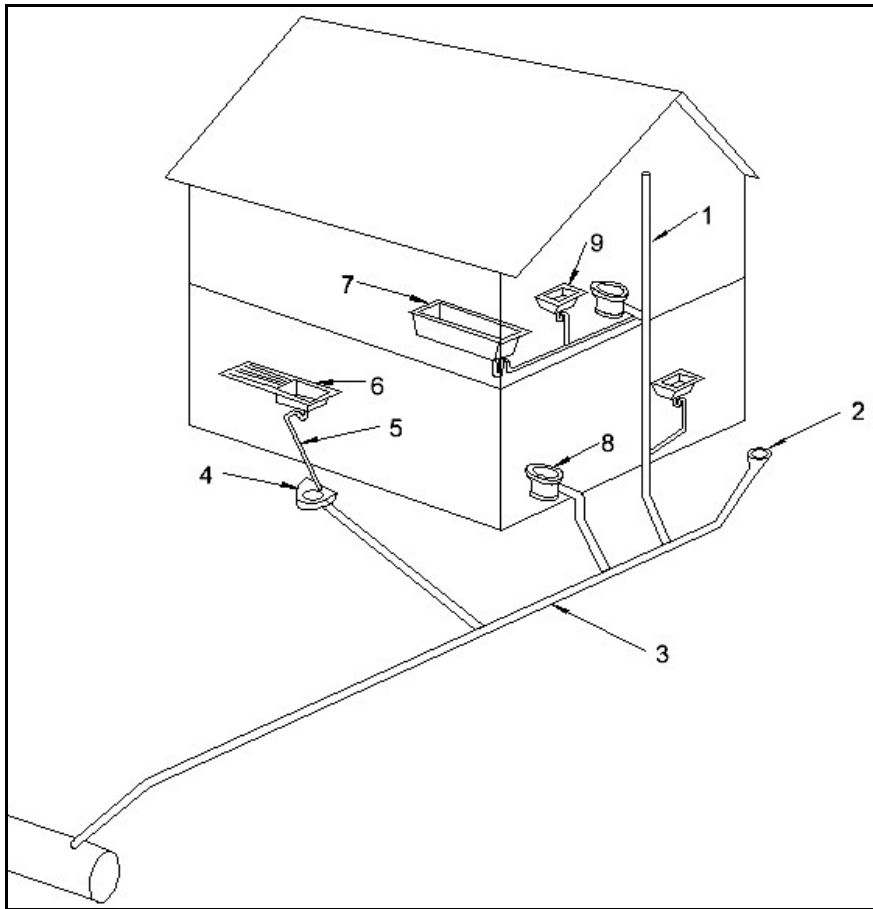

FIGURE 3.4
3.4 FIGURE 3.4 below shows a partial sectional sketch of the drainage system of a house. Study the sketch and answer the following questions: